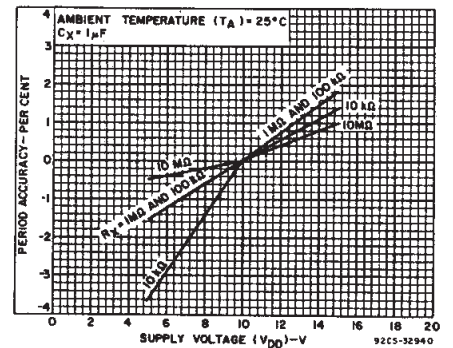

Fig. 11—Typical astable oscillator or Q, \bar{Q} period accuracy vs. supply voltage.
B. Variations Due to V_{DD} and Temperature Changes — In addition to variations from unit to unit, the astable period varies with V_{DD} and temperature. Typical variations are presented in graphical form in Figs. 11 to 18 with 10 V as reference for voltage variations curves and 25°C as reference for temperature variations curves.